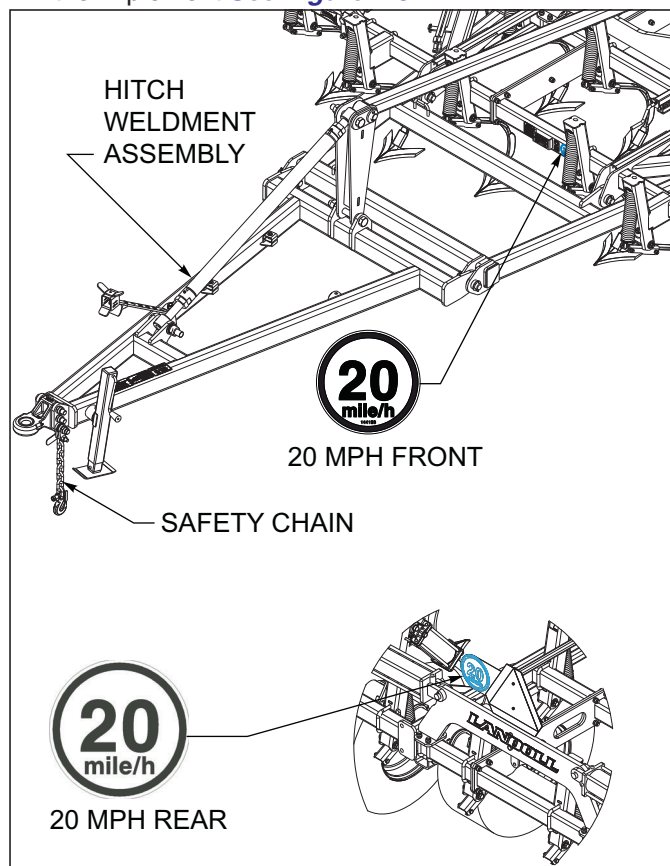

Figure 4-5: Hitch, Speed Identification Symbol, and Safety Chain
2. The Field Cultivator should be transported only by tractor required for field operation. The implement weight should not exceed more than 1.5 times the tractor weight. Unless noted on the implement, maximum transport speed is 20 mph for the implement and is designated on the speed identification symbol located on the front and rear of the implement **See Figure 4-5.**
8. Attach the safety chain to the tractor drawbar, refer to the tractor operator's manual for proper placement, **See Figure 4-5.** Provide only enough slack in the chain for turning. Do not use an intermediate chain support as the attaching point for the chain on the tractor. Do not pull the implement by the safety chain.